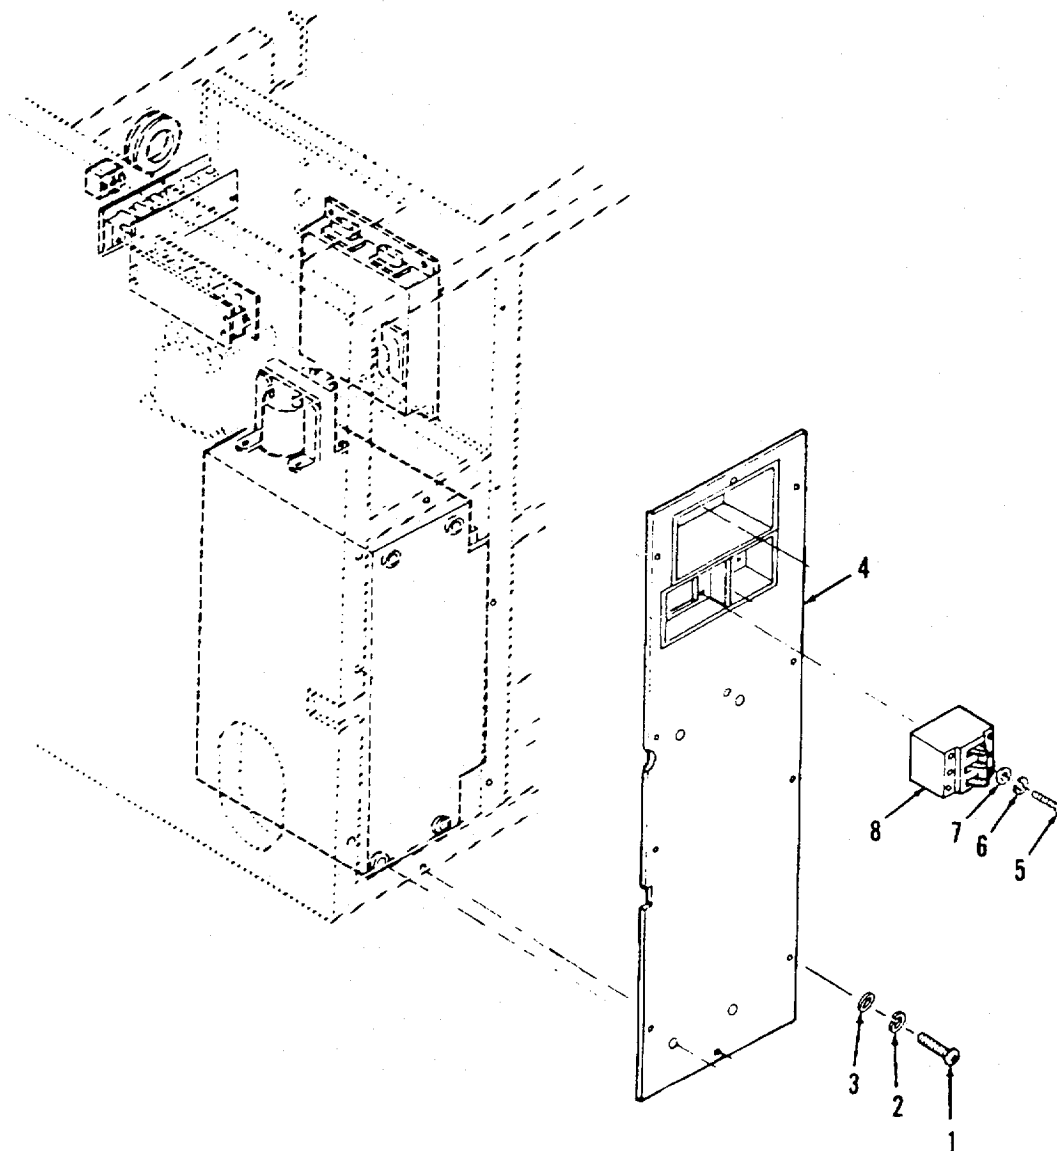

Figure 3-24. Circuit Breaker (CB1).
- a. **Removal.** (Refer to Figure 3-24).